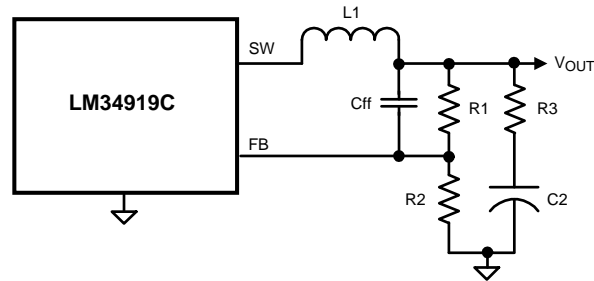

Figure 12. Reduced Ripple Configuration
a) Reduced ripple configuration: In Figure 12, C_{ff} is added across $R1$ to AC-couple the ripple at V_{OUT} directly to the FB pin. This allows the ripple at V_{OUT} to be reduced to a minimum of 25 mVp-p by reducing $R3$, since the ripple at V_{OUT} is not attenuated by the feedback resistors. The minimum value for C_{ff} is determined from: